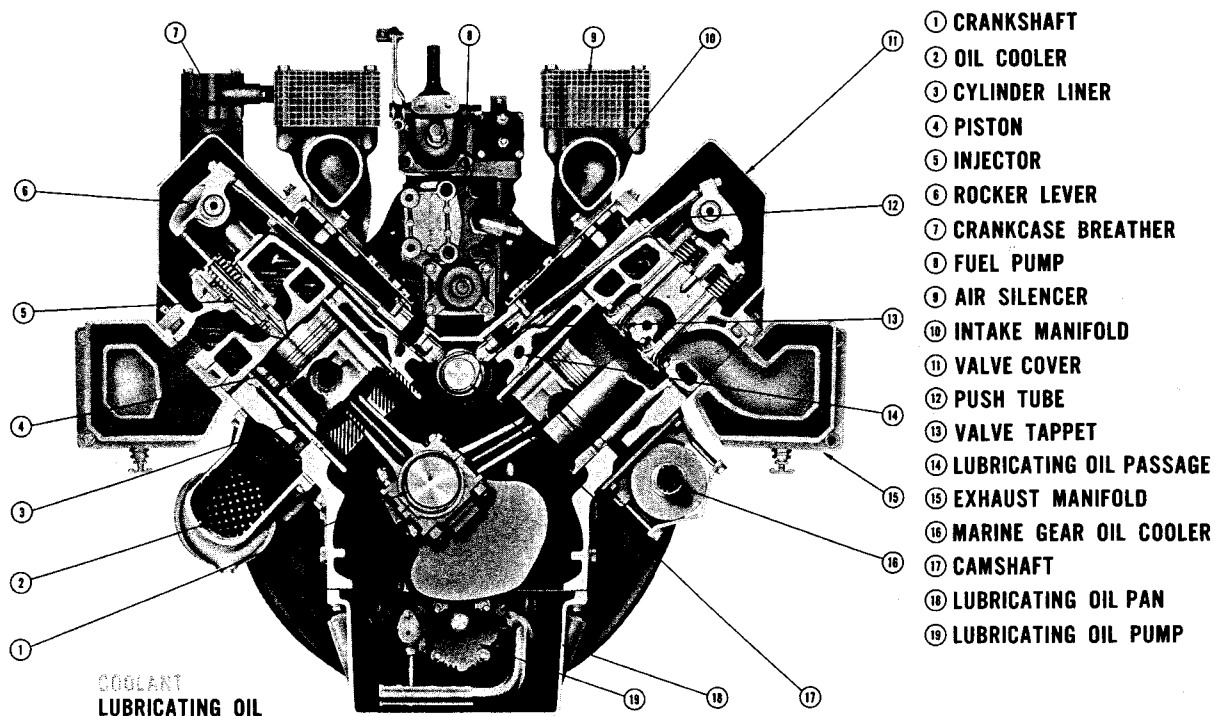

Fig. 6-13, (V11805). Lubricating oil and coolant flow — V-504 engine
3. Various drillings throughout the cylinder block, cylinder heads, camshaft, crankshaft, accessory drive, rocker levers and tappets route oil to moving parts of engine. Fig. 6-13 and 6-14.
Water circulates around wet-type cylinder liners, through the cylinder heads and around injector sleeves. Fig. 6-13, 6-14 and 6-15. Injector sleeves, in which injectors are mounted, are designed for fast dissipation of heat. The engine has a thermostat or thermostats to control engine operating temperature.